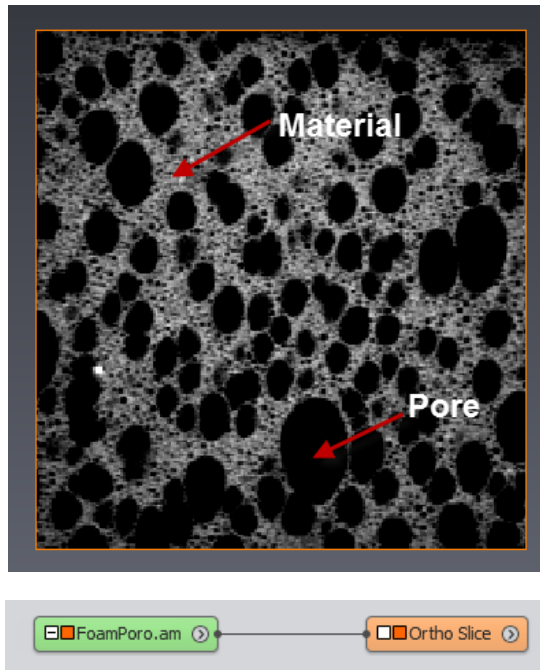

Figure 6.44: Initial microtomography image of foam pores
- If Auto-Display is disabled, connect an *Ortho Slice* to visualize the data in the 3D viewer as shown on Figure 6.44.